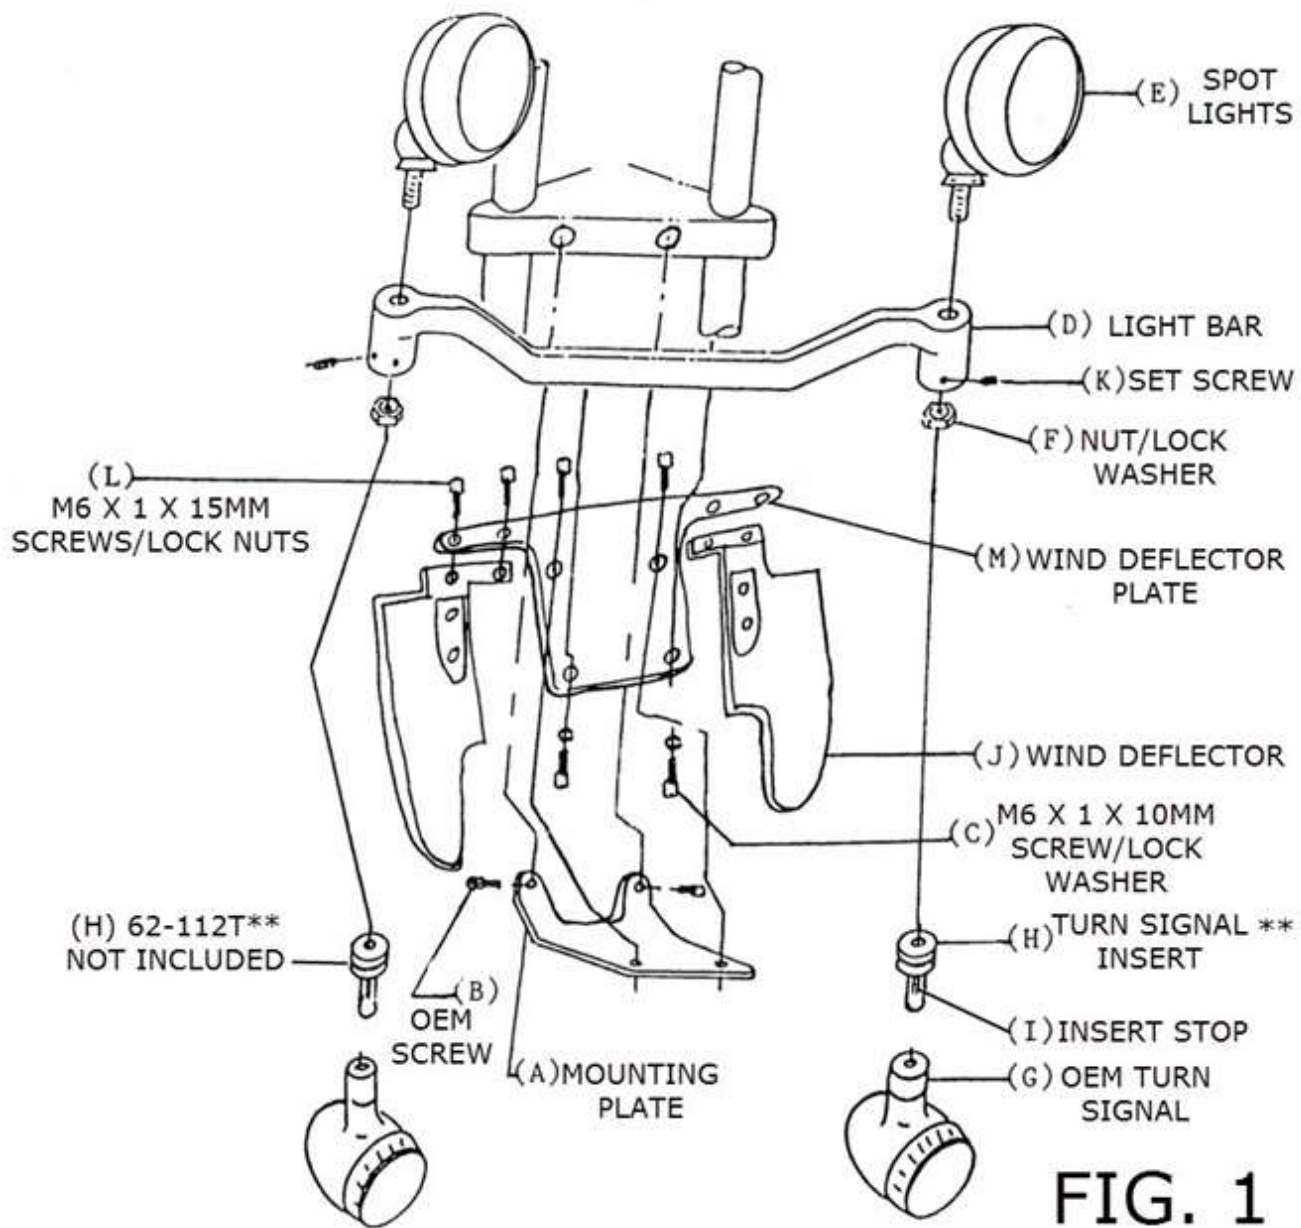
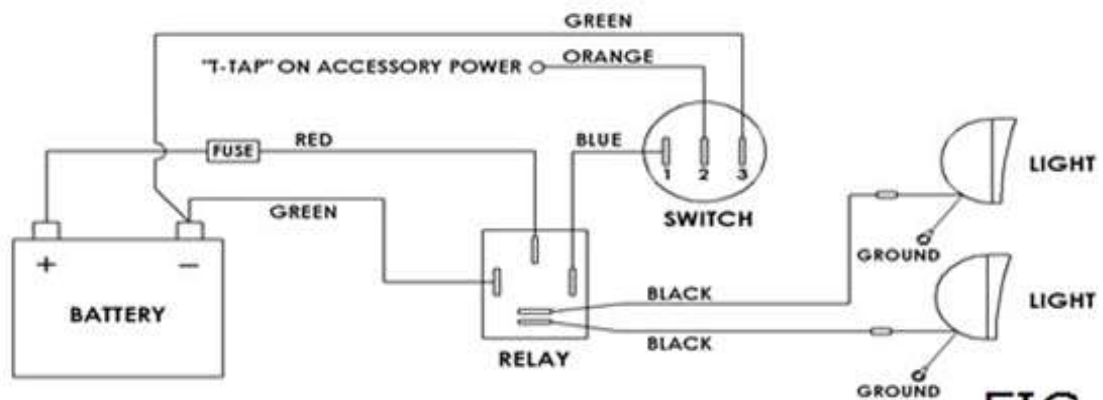

FIG. 1
FIG. 2
7. ON EACH OEM TURN SIGNAL (G) FOLLOW THE WIRES INTO THE HEADLIGHT HOUSING & DISCONNECT THEM (UNPLUG THE BULLET CONNECTORS).
8. USING 6MM ALLEN WRENCH REMOVE THE TWO SOCKET HEAD CAP SCREWS (B) HOLDING THE TURN SIGNAL OEM LIGHT BAR TO FORKS (KEEP SCREWS). SEE **FIG. 1**.
9. USING 4MM ALLEN WRENCH REMOVE THE WIND DEFLECTORS (J) FROM OEM LIGHT BAR (WILL NOT REUSE THESE SCREWS).
10. USING 8MM WRENCH REMOVE THE TURN SIGNALS (G) FROM THE OEM LIGHT BAR (KEEP SCREWS AND RUBBER).
11. INSTALL THE MOUNTING PLATE (A) TO THE FORKS USING SCREWS THAT WERE REMOVED. SEE **FIG. 1**.
12. INSTALL OEM WIND DEFLECTORS (J) TO WIND DEFLECTOR PLATE (M) (WITH BEND UP) USING (4) M6 X 1.00 X 15MM SCREWS (L) AND LOCK NUTS WITH LOCK NUTS POINTING DOWN.
13. INSTALL WIND DEFLECTOR PLATE (M) TO MOUNTING PLATE (A) USING (2) 6MM X 1.00 X 15MM SCREWS (L) AND LOCK NUTS WITH LOCK NUTS POINTING DOWN.
14. INSTALL THE SPOT LIGHTS (E) ONTO THE NEW LIGHT BAR (D) USING THE NUTS & LOCK WASHERS (F) PROVIDED WITH THE LIGHTS. POSITION THE LIGHTS TIGHTEN WITH 14MM SOCKET & WRENCH. **NOTE: DO NOT OVER-TIGHTEN**
16. ROUTE THE OEM TURN SIGNAL (G) WIRES & THE SPOT LIGHT (E) WIRE INTO THE LIGHT BAR. YOU MAY HAVE TO CUT OFF OEM BULLET CONNECTORS AND ADD NEW ONES AFTER THEY ARE ROUTED. SEE **FIG. 2**.
17. THE TURN SIGNAL INSERTS – NOT INCLUDED (H) WITH OEM TURN SIGNAL (G) NEED TO BE POSITIONED INTO LOWER ENDS OF THE LIGHT BAR (D) & SECURED THEM WITH SET SCREWS.(K) 3 ON EACH SIDE USING A 2MM ALLEN WRENCH.
19. USING THE TWO M6 X 1.00 X 10MM (C) SOCKET HEAD CAP SCREWS & LOCK WASHERS ATTACH LIGHT BAR (D) ONTO THE WIND DEFLECTOR PLATE (M) AND TIGHTEN USING A 5MM ALLEN WRENCH.
20. LOCATE YOUR BIKES BATTERY, FUSE BLOCK AND / OR ACCESSORY TERMINALS AND WIRE ACCORDING TO THE SCHEMATIC **FIG 2**.